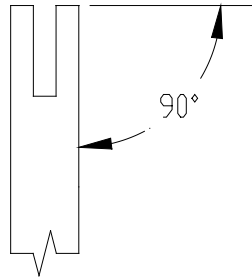

Figure 4-1
2. Ensure that the bar rails are dressed squarely as shown in Figure 4-1 with the wire edges removed. As the bar rails wear down, sharp burrs are formed on the edge of the rails, which are typically referred to as wire edges. If ignored, wire edges mushroom over and affect cutting performance.